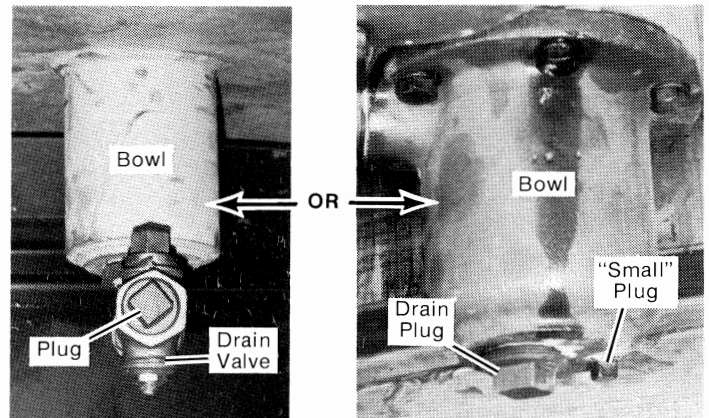
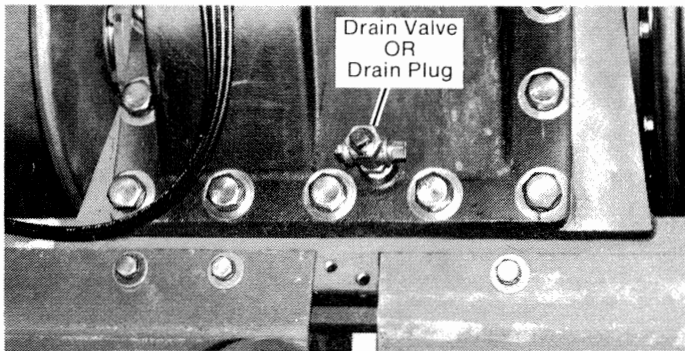

Figure 3 Rotating Sump Drain
Figure 4 Boom Hoist Housing Drain
If NOT equipped with a drain valve between the pump and the filter (see Figure 3):
Also drain the water from the boom hoist housing (see Figure 4) as follows:
2. Open the drain valve or remove the drain plug from the sump (see Figure 3). Also drain the boom hoist housing (see Figure 4) if it is lubricated by the circulating oil system.